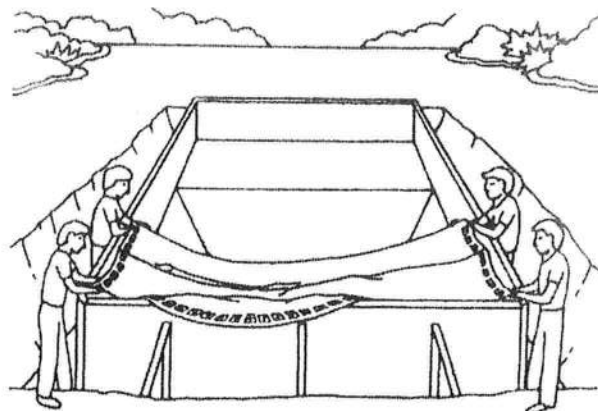

Figure 22: Liner Unfolding
6. Remove the liner from the box. Place the liner in the deep end of the pool, with arrows facing the shallow end. Carefully unfold the liner. Have two people take the shallow-end corners and pull the liner to the shallow end (see Figure 22), keeping the liner away from any sharp edges. **AVOID DRAGGING THE LINER ACROSS THE POOL BOTTOM.**